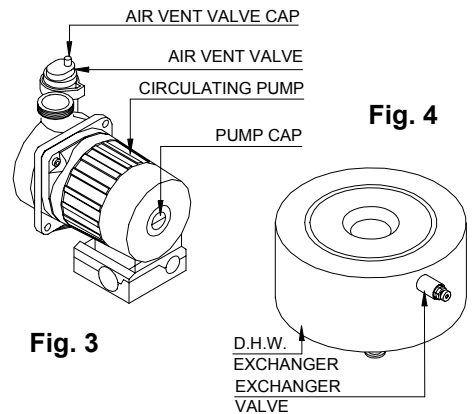
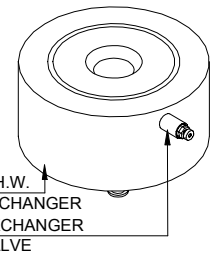

Fig. 3
Fig. 4
If a timer is fitted as well as a room thermostat, carry out the electrical connections for the timer according to the indications in figures 3 (time clock + room thermostat) and 4 (time clock only).
- undo the cap on the circulation pump to eliminate any eventual air locks (see fig. 3). Undo the valve on the heat exchanger and then close it again as soon as water appears (see fig. 4); it is a good idea to purge all radiators of air at this point too;
- if any noises are heard, loosen the valve on the heat exchanger (see fig.4) and close it again as soon as water appears;
- turn selector switch **1** to the «off» position (see fig. 1 pag. 9), insert a gauge into the pressure point (see fig. 4 pag. 12; pos. no. 4), turn on the boiler and check the minimum and maximum calibration pressures of the modulator in accordance with those stated on the gas plate; (to check the maximum modulation pressure of the modulator, turn on a hot water tap and check that the maximum pressure is equal to that stated on the plate; to check the minimum, undo one wire from the modulator coil and check on the gauge that the minimum pressure is equal to that stated on the plate; if the maximum pressure is not the same as stated on the plate, calibrate the modulator again;
e) move the jumper on the circuit board to suit the type of gas (fig.4).